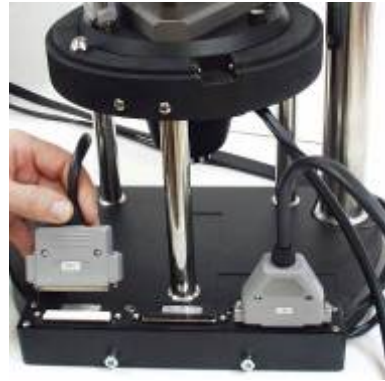

Fig. 2-2
2. The universal measuring head cable is connected to the **HEAD** socket on the connecting unit (Fig. 2-2);